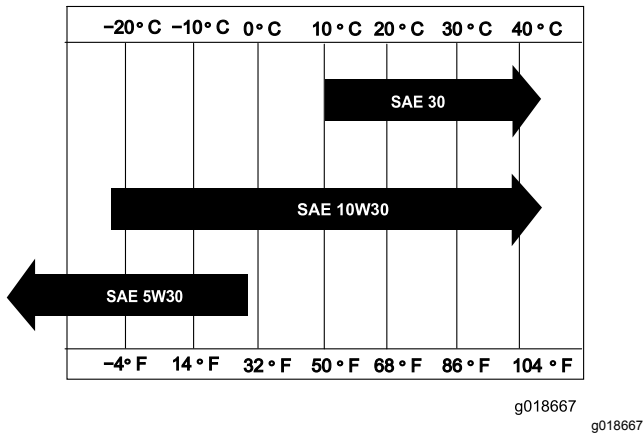

Figure 17
**Viscosity:** select according to ambient temperature; refer to Figure 17.